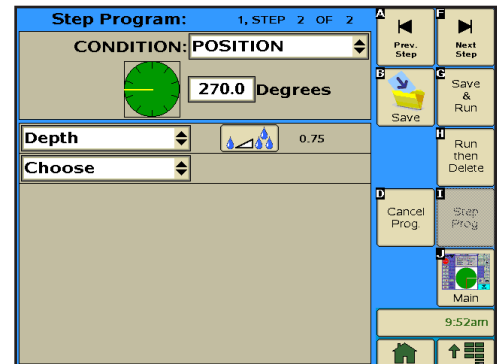

Figure 163-2
8. Program the position condition for this step. Refer to Figure 163-2.